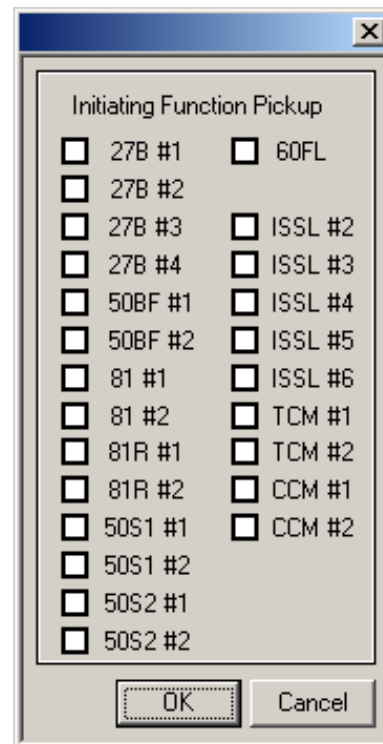

Figure 4-96 Selection Screen for Initiating Function Pickup
8. If desired select the Initiating Function Pickup button. ISSLogic will display the Initiating Function Pickup Selection screen (Figure 4-96).